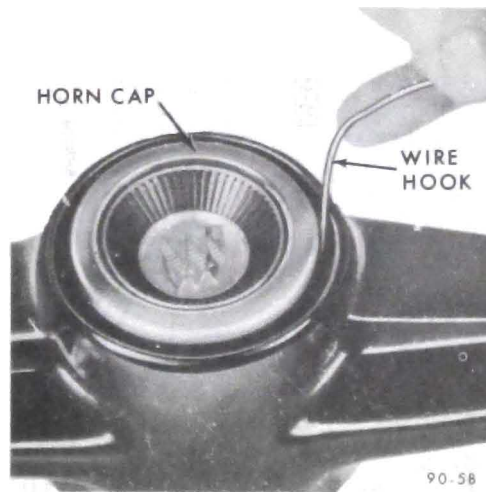

Figure 90-97 Horn Actuator Cap Removal - Standard Steering Wheel
2. On 43-44000 series cars with standard steering wheel, pull off cap, remove three phillips head screws and take off bushing spacer, receiver cup and Belleville spring (see Figure 90-97).